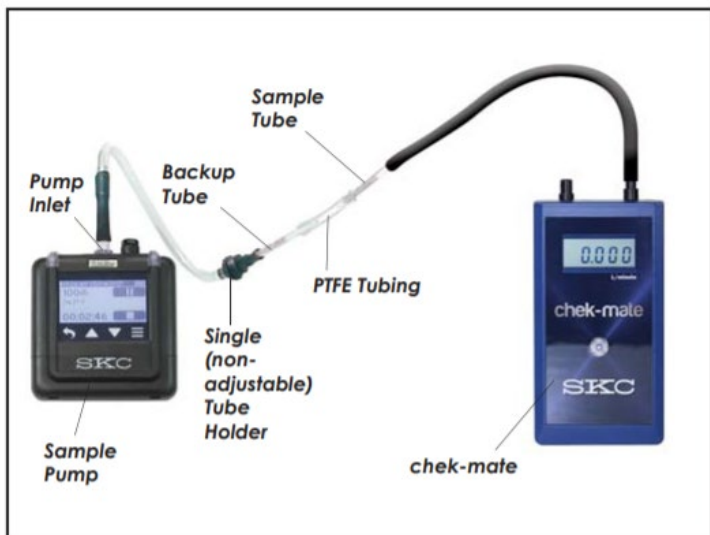

Figure 2. Flow rate verification train using single (non-adjustable) low flow tube holder
With Single (non-adjustable) Low Flow Tube Holder — Figure 2
3. Verifying the Flow Rate — Figure 2